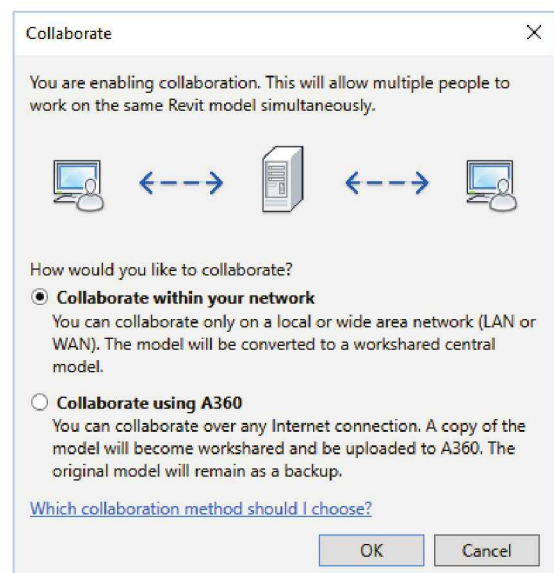

FIGURE 17-2.3 Enabling Worksharing (Collaboration)
- With **Collaborate with your network** selected, click **OK** (Figure 17-2.3)
The option to collaborate using A360, shown in Figure 17-2.3, is a paid cloud service offered by Autodesk to allow design firms from different offices to work on the same Revit model.
Looking back at Figure 17-2.3, notice that modeled elements, if any exist, are divided up between two default Worksets when Worksharing is activated: